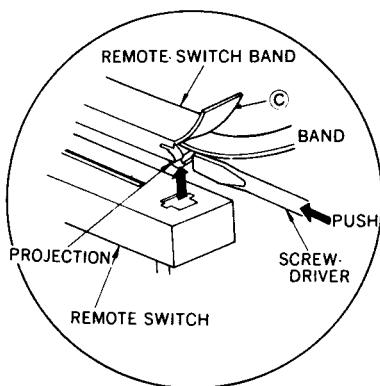

Fig. 3
1. Use a small screwdriver to push the projection of the remote-switch bands in the direction shown by the arrow in figure 3, and remove them from the remote switch.
Note: When removing the remote-switch bands, be careful not to pull the bands nor to hold them as shown in **(C)** of figure 3, because to do so may result in damage. Also be careful not to bend or twist the bands excessively.